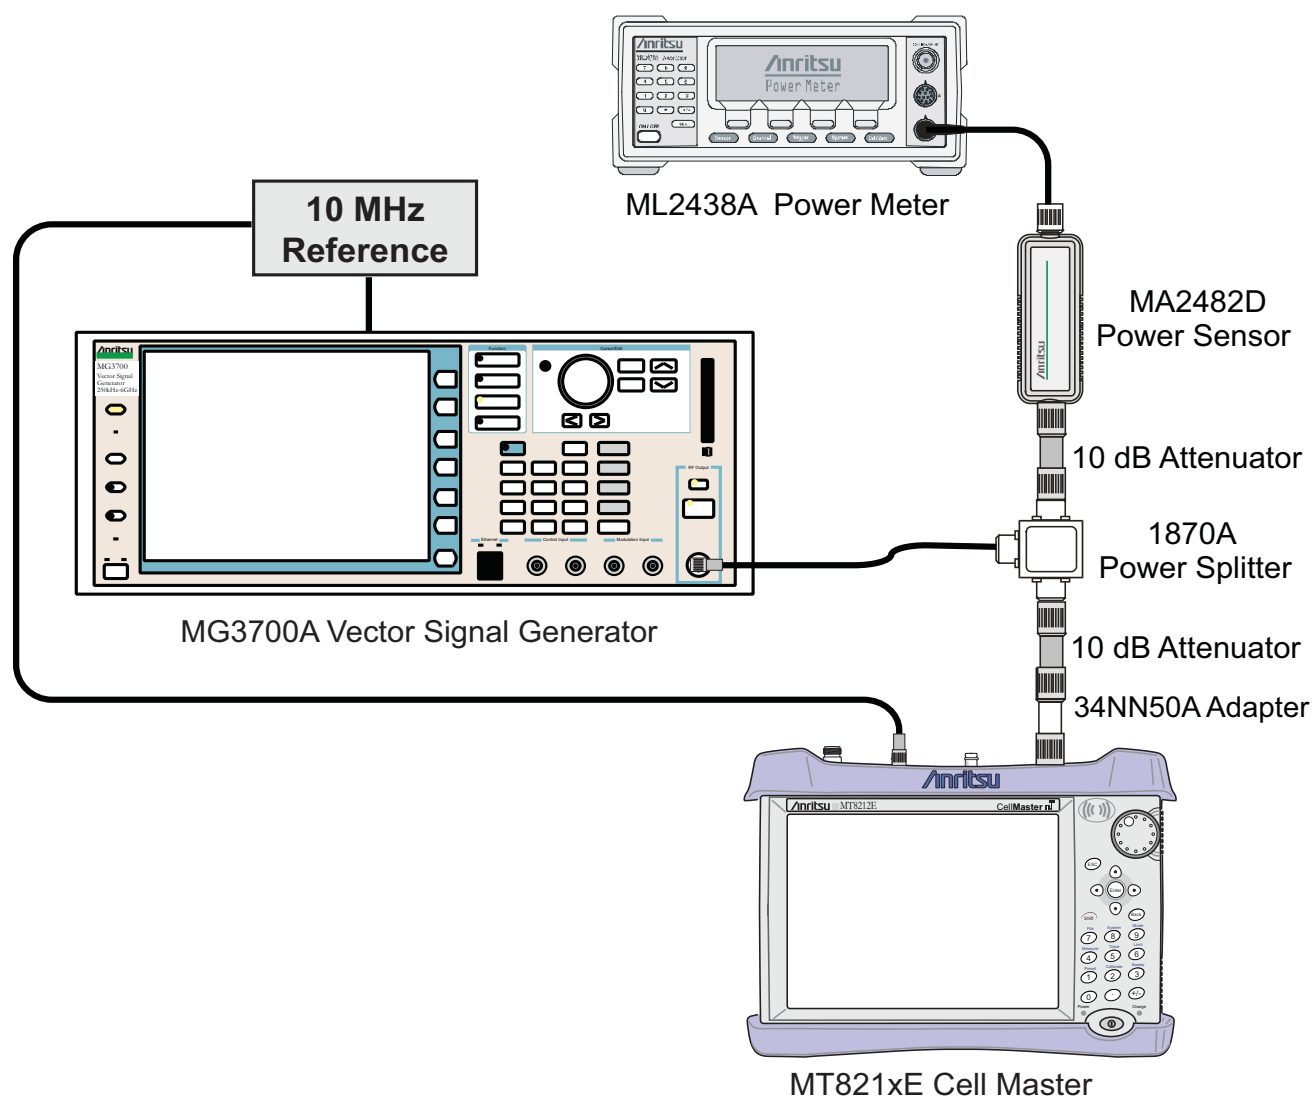

Figure 5-22. TD-LTE Signal Analyzer Option Verification
4. Connect the equipment as shown in Figure 5-22.